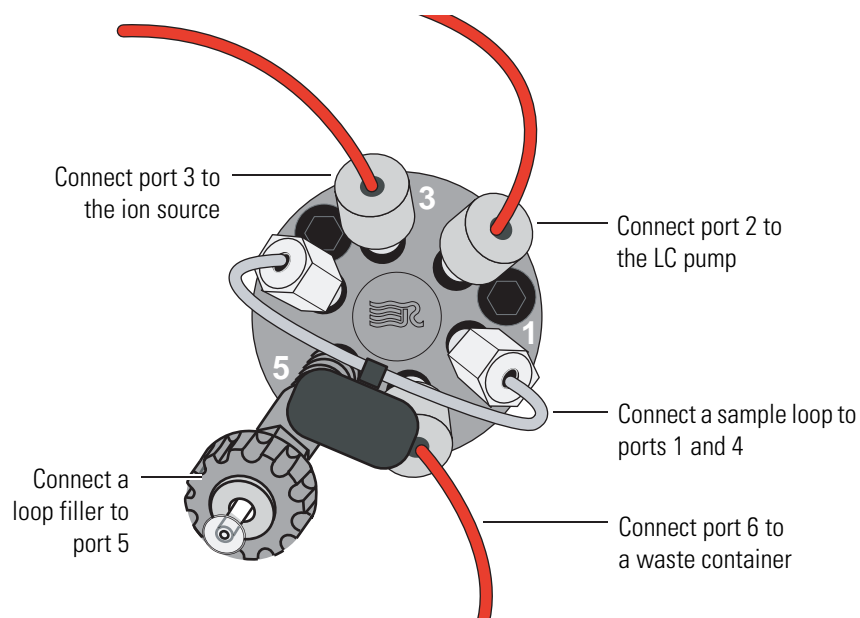

Figure 5-16. Switching valve set up for loop injections
1. Connect a loop filler to port 5 of the switching valve. See Figure 5-16.